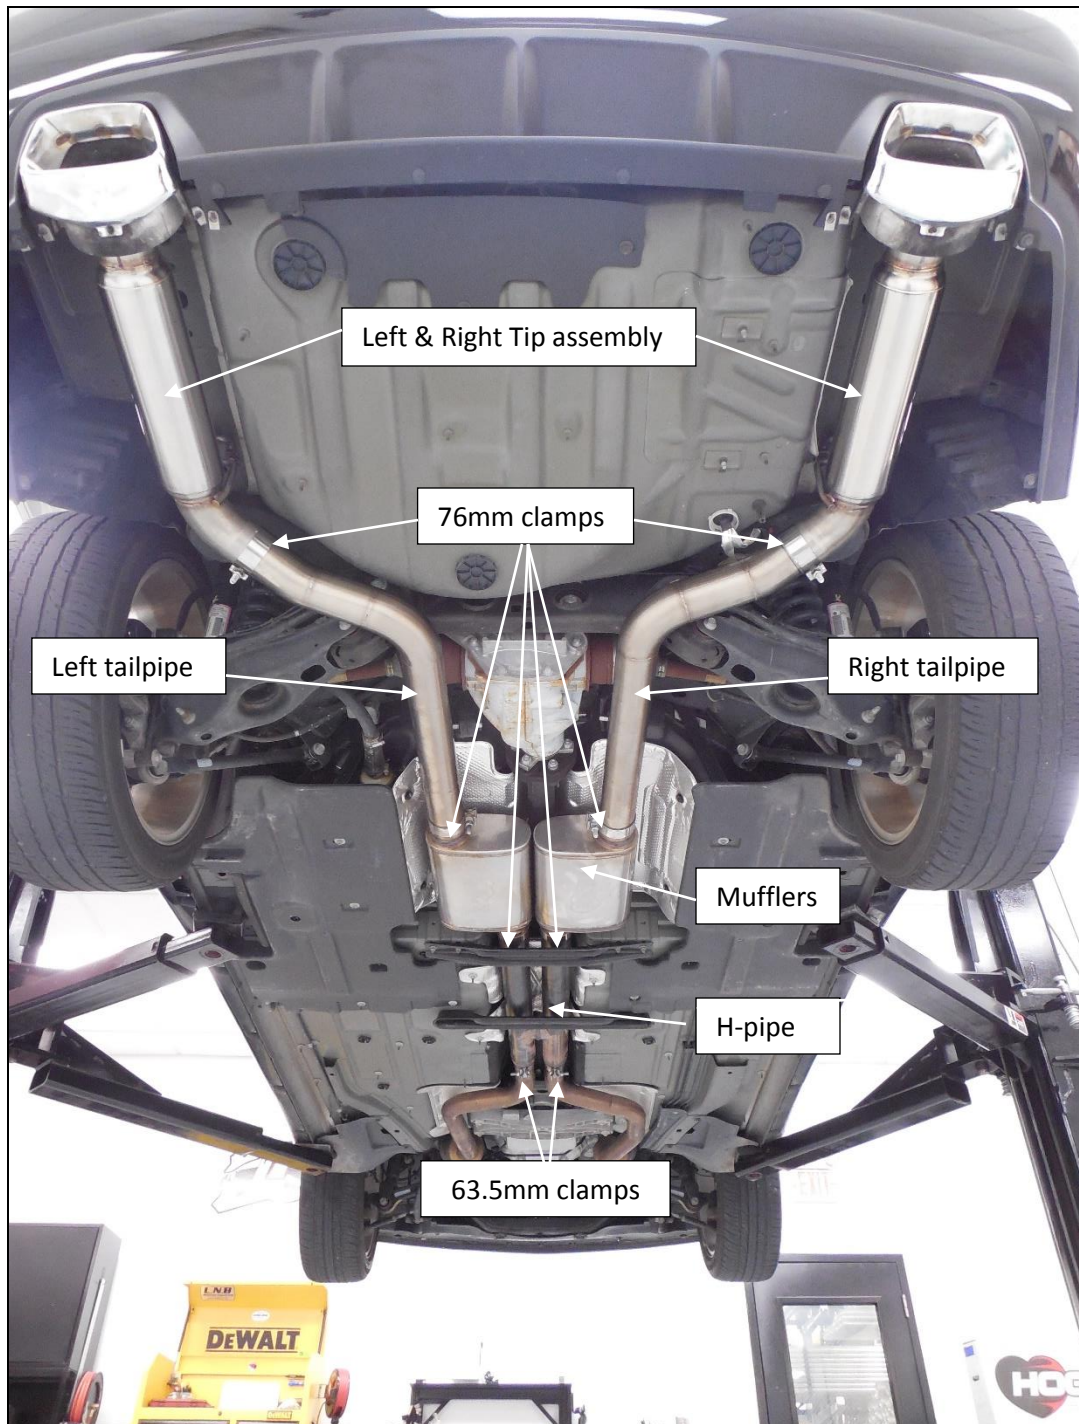

Figure 3
10. Install the Right side tailpipe into the muffler or muffler delete pipe. Spray the isolator at the differential with WD-40® and rotate the tailpipe hanger into the isolator (**Figure 3**).
11. Install the Left side tailpipe into the muffler or muffler delete pipe. Spray the isolator at the differential with WD-40® and rotate the tailpipe hanger into the isolator (**Figure 3**).
12. Install a supplied 76mm band clamp over the outlet of each tailpipe with the bolt to the outside and the nut facing down (**Figure 3**).